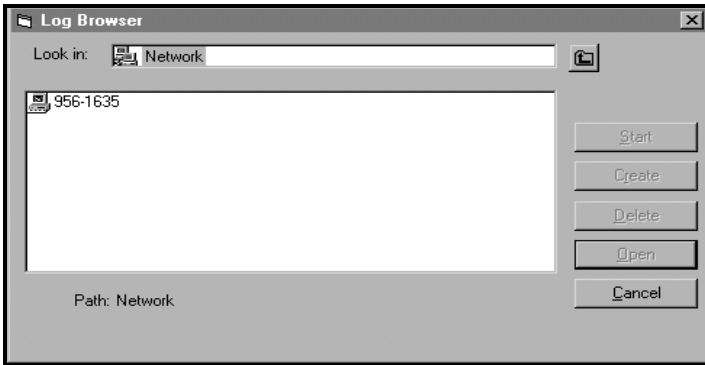

Figure 68: Computer Selection
1. Open the “*Output*” menu (see Figure 56 on page 74), and click on “*Logging*” and then on the “*Log Browser*” option. The dialog box shown in Figure 68 appears.